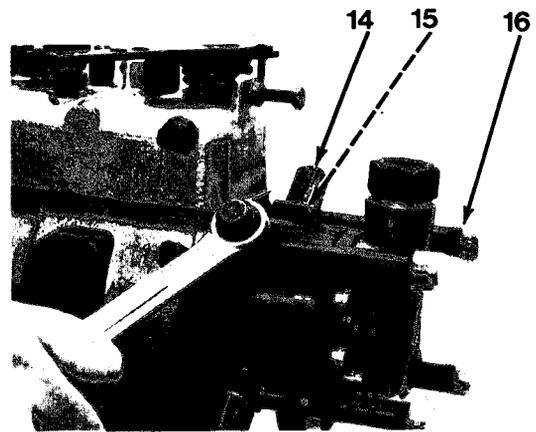

Figure 7-15
19. Install four fittings (16), eight copper washers (15) and four banjo bolts (14, Figure 7-15). Torque four banjo bolts (14) to 23lb-ft (31 N•m).